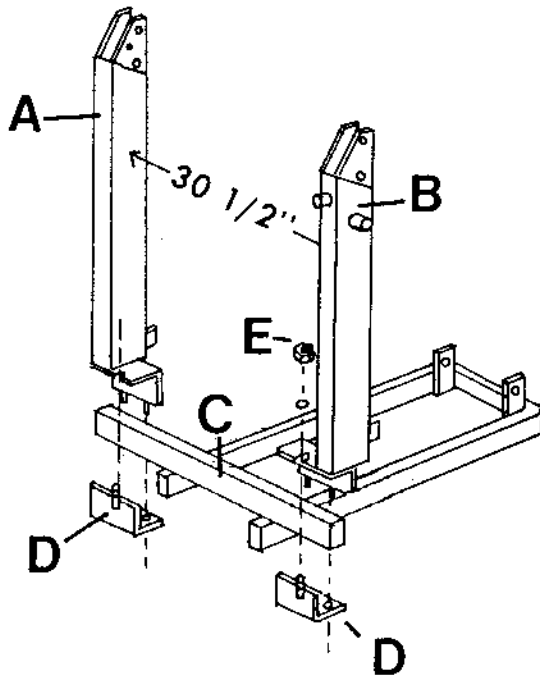

FIG. 7
Proceed to Assembly of Uprights, Fig. 7 next page.
7. Refer to Fig. 7.